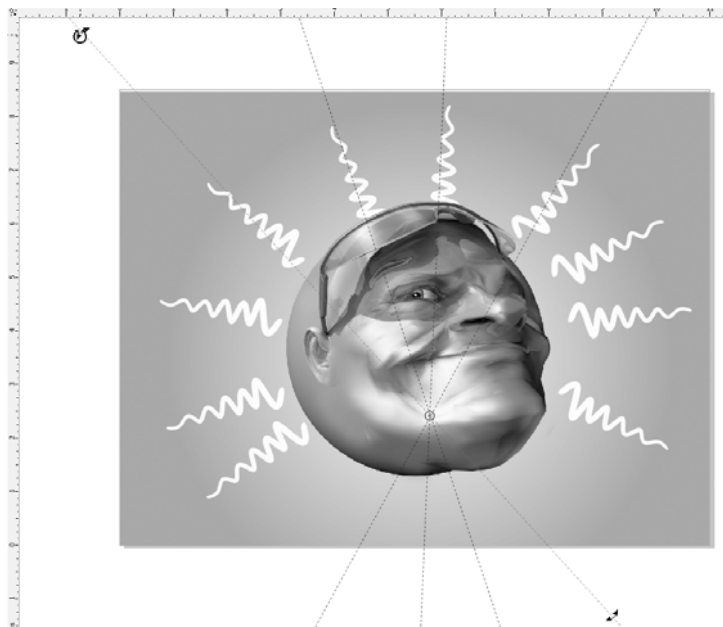

FIGURE 7-8 Make your guides perform at the angle you need for a design piece.
- If you need a guide that travels uphill or downhill, you create a guide first. Next, click it to select it, and then click a second time, and you'll see a center and rotation handles. One of the neat things about rotating a guideline is that you can move its center point before dragging on the rotation handles to, for example, rotate a guide around the corner of a shape you have on the page. You move a slanted guideline exactly as you do with a perfectly horizontal or vertical guide—you click-drag it to reposition it. See Figure 7-8, where the design needs cartoonish shafts of light